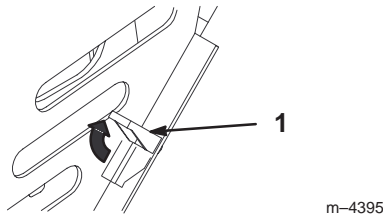

Figure 20
3. Release the four locking tabs (Fig. 20).
1. Position the hood over the traction unit frame with the posts on the hood fitting into the holes on the frame (Fig. 20).
2. Secure the hood by pushing the locking tabs forward and down (Fig. 20).